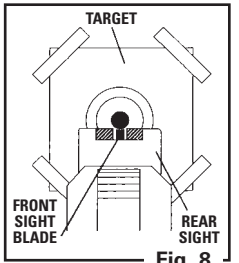

Fig. 8
- The air pistol is correctly aimed when the front sight blade is positioned exactly in the notch of the rear sight. The top of the front sight blade should be even with the top of the notch in the rear sight. The bullseye should appear to rest on the top of the front sight (Fig. 8).